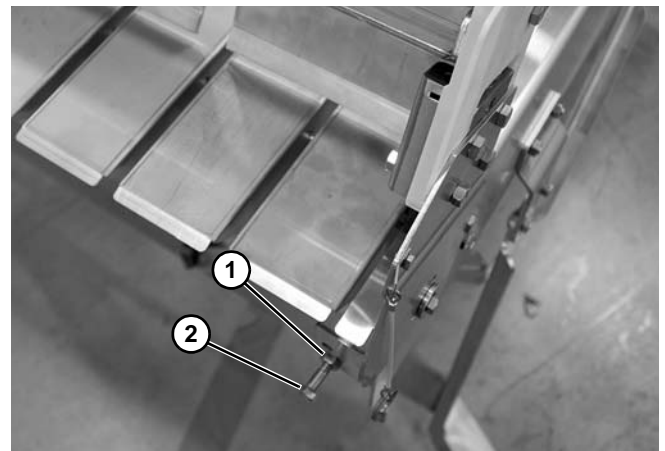

Figure 94
- If needed, raise idler tail and loosen nut (**Figure 94, item 1**). Tighten or loosen screw (**Figure 94, item 2**) to move idler tail up or down to level with conveyor bed rail. Ensure that nuts are tight after leveling.